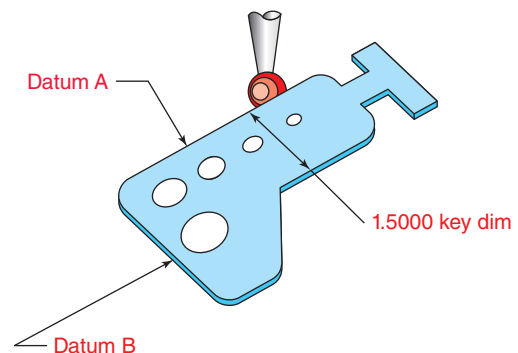

Figure 29-30 Plan to inspect the key features of this drill gage.
1. A. Of the three CMM types, which would be ideally suited to evaluate the key features in Fig. 29-30 and why?
17. Describe the number of hits required to determine the corner radii size on the drill gage drawing, Fig. 29-30.
20. Add up the total minimum number of hits that would be required to inspect the drill gage in Fig. 29-30.